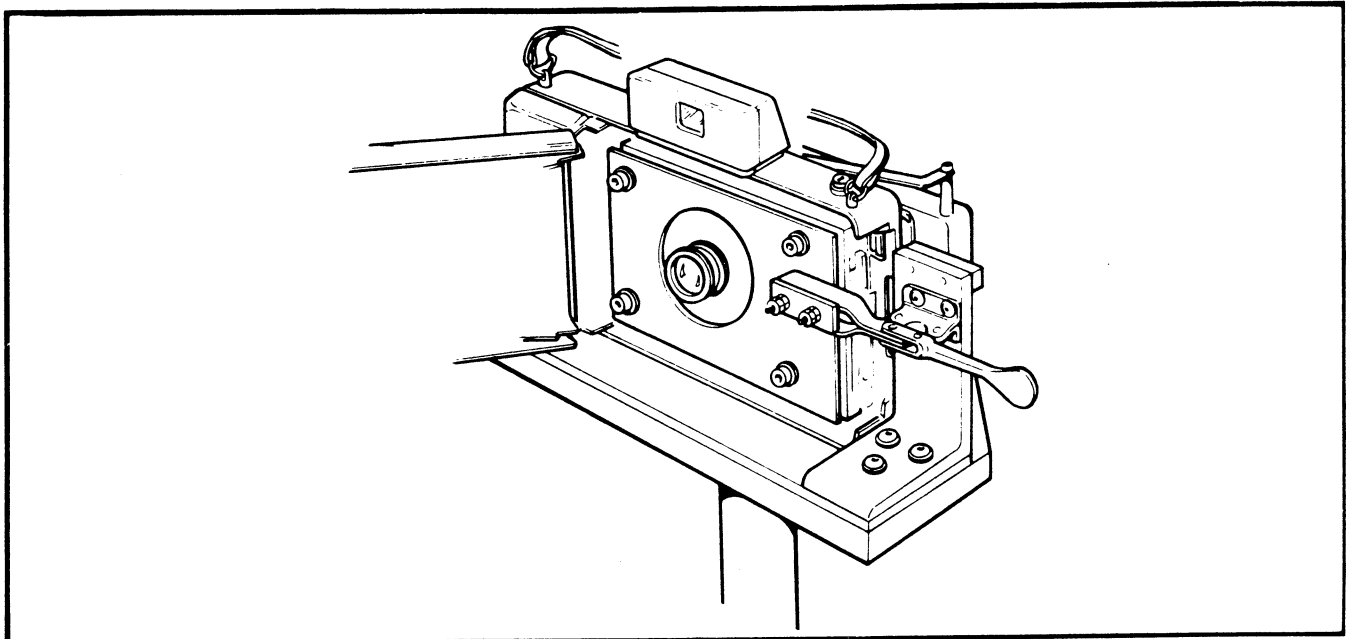

FIG. 3.10 CAMERA MOUNTED ON COLLIMATOR
2. Open the rear door and mount the camera on the Polaroid collimator. Clamp the focal plane plate into position on the camera as shown in Figure 3-10.